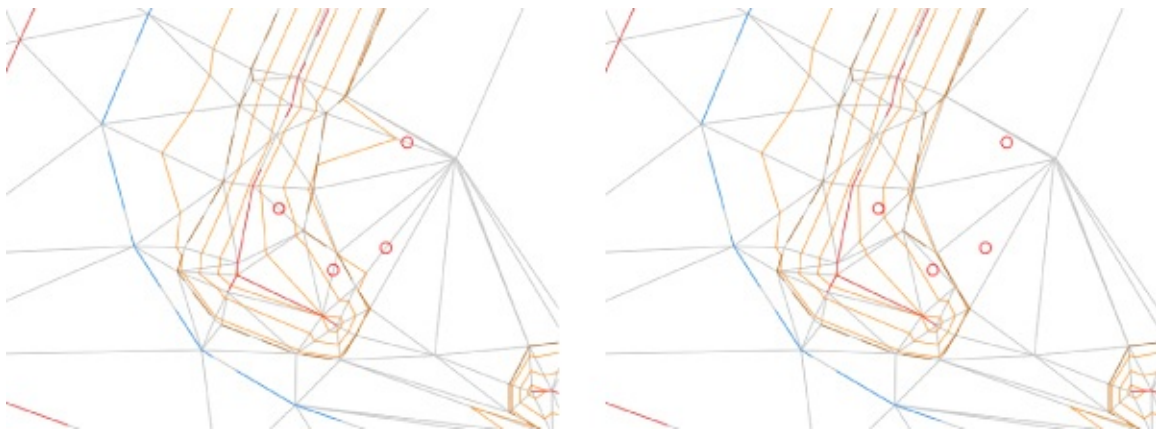

Figure 4.34 Surface before triangle swap (left) and after (right)
13. Press **↵** when you have finished selecting edges to complete the command. The resulting contours should resemble the right side of Figure 4.34.